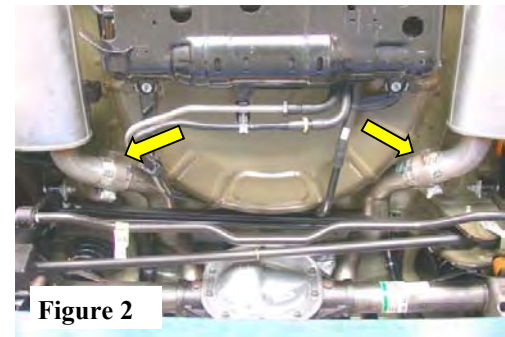

Figure 2
2. Loosen the clamps located just in front of each muffler assembly. (See Fig. 2)